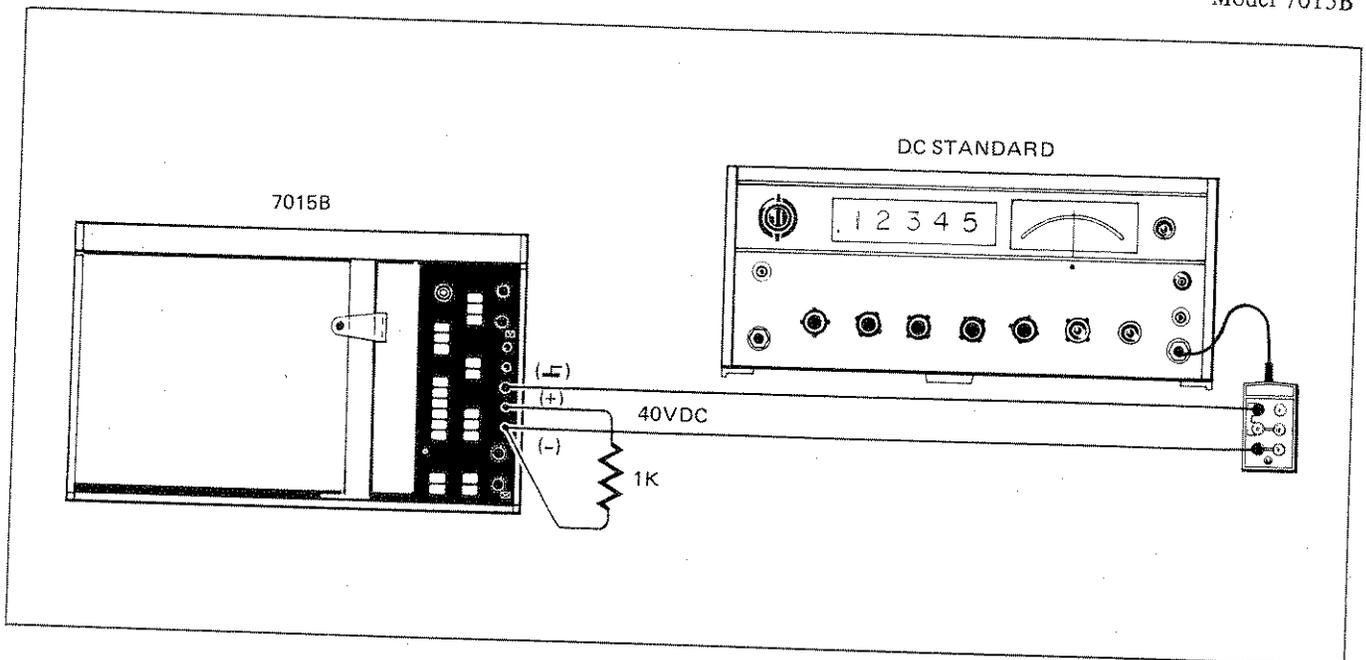

Figure 4-1. Connections for DC Common Mode Rejection Check
a. To test common mode rejection for X-axis, install a 1k ohm resistor between X-axis plus and minus terminals. (See Figure 4-1).
d. Connect DC Standard with zero volts output, between X-axis minus terminals and ground. (See Figure 4-1.)